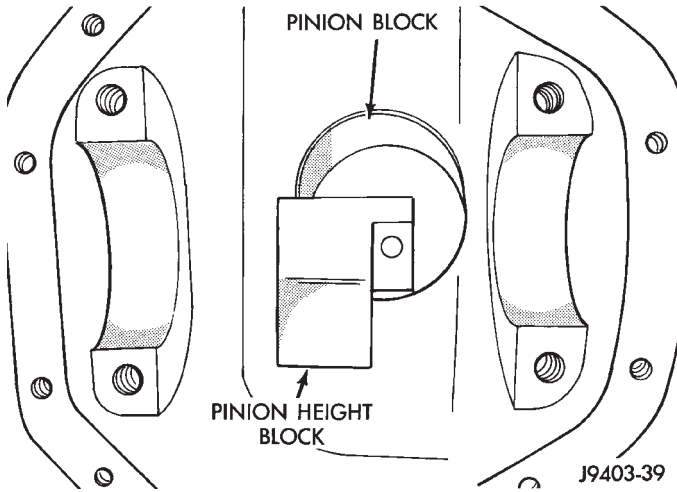

Fig. 79 Pinion Height Block—Typical
(2) Insert assembled height gauge components, rear bearing and screw into axle housing through pinion bearing cups (Fig. 79).